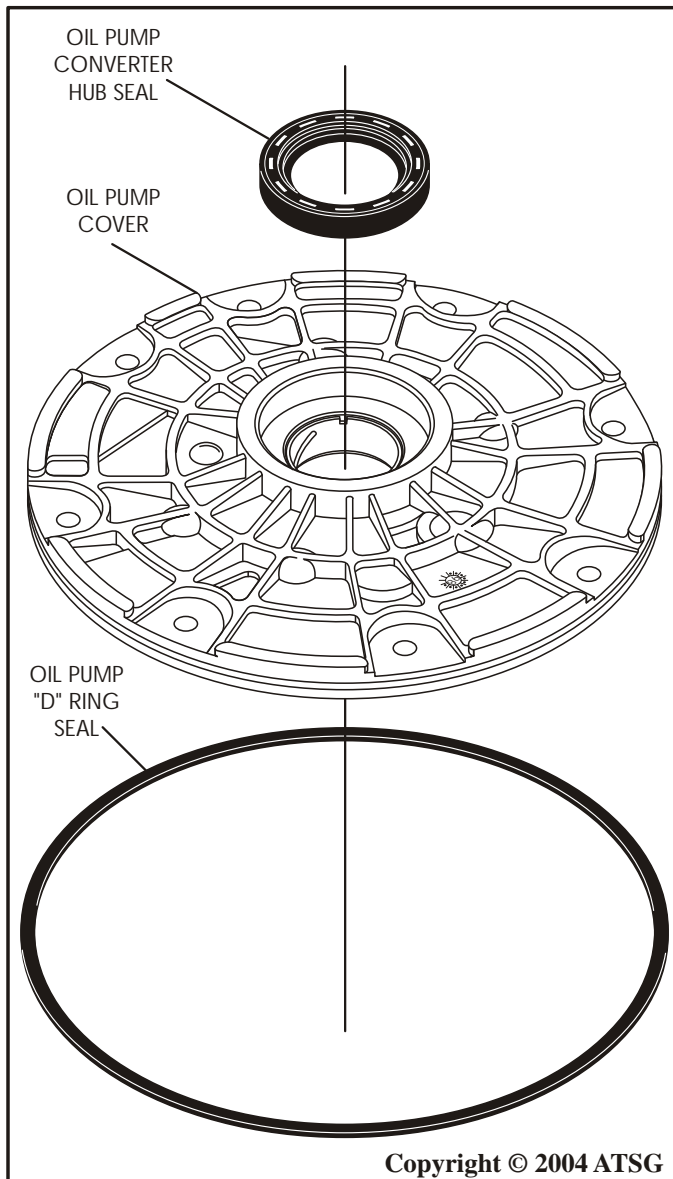

Figure 61
11. Install a new converter seal into the oil pump cover using the proper seal driver, as shown in Figure 61.
12. Install a new "D" ring seal into outer groove of the oil pump cover, as shown in Figure 61.